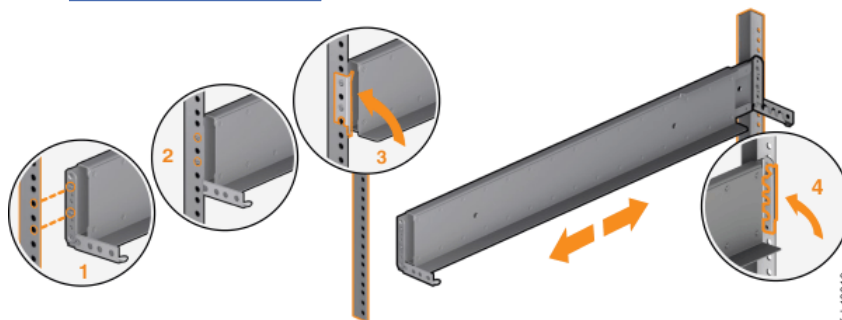

Figure 38. Closing the hinge brackets
9. Close the rear hinge bracket to secure the rail to the rack cabinet flange. (See Figure 38 on page 79.)
11. Close the front hinge bracket to secure the rail to the rack cabinet flange. See Figure 38 on page 79.